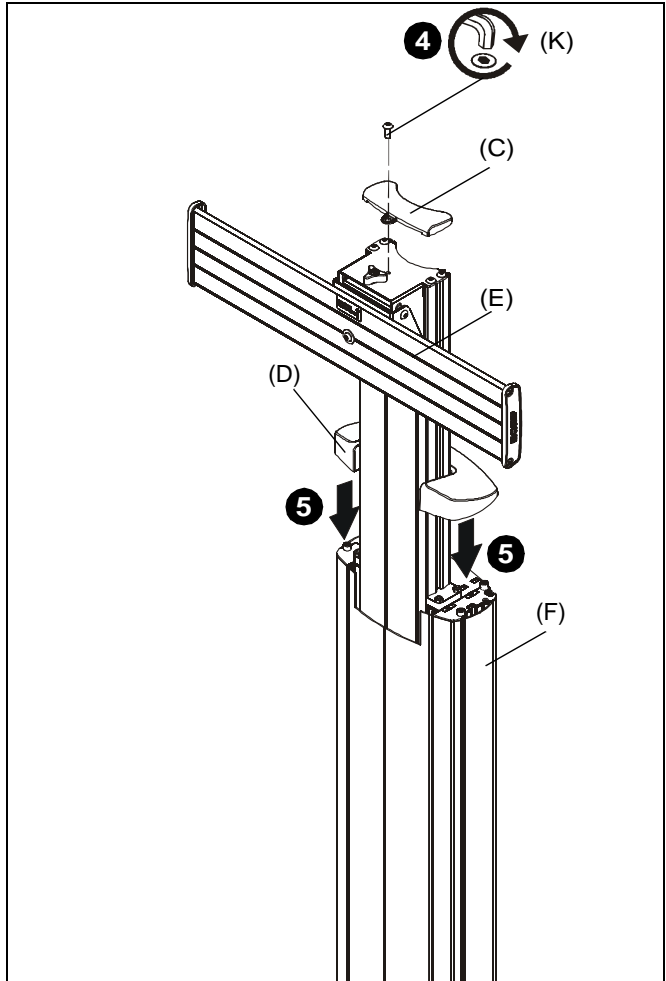

Figure 3
3. Use four 5/16-18 x 3/4" button head cap screws (K) to secure interface head assembly (E) to column assembly (F). (See Figure 3)
4. Use remaining 5/16-18 x 3/4" button head cap screw (K) to secure column upper cover (C) to interface head assembly (E). (See Figure 3)
5. Snap column inner cover (D) onto column assembly (F). (See Figure 3)